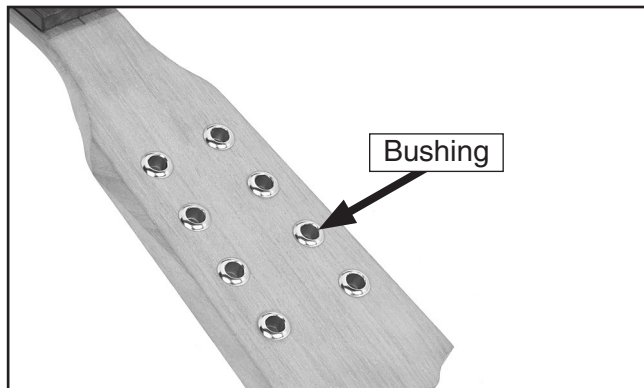

Figure 24. Peghead bushings.
1. Place the eight bushings in the pegholes as shown in **Figure 24**.